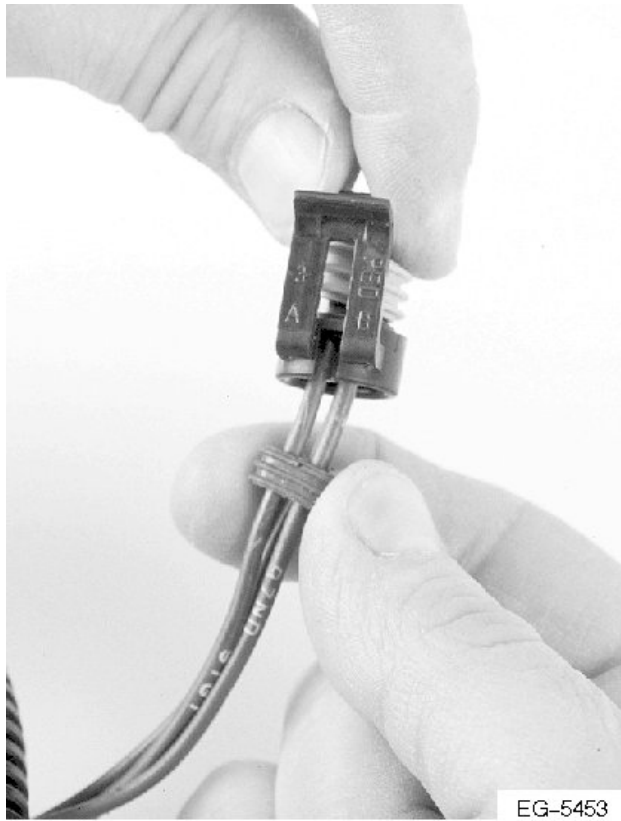

Figure 287 Reinstall Insulator
2. Push the wire insulator into place at the rear of the connector body (See Figure 287, page 451).